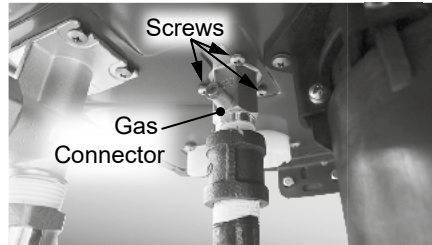

Figure 1 - Gas connector location
- 3 Locate the gas connector on the bottom of the water heater. See Figure 1. Disconnect the gas line to the water heater.